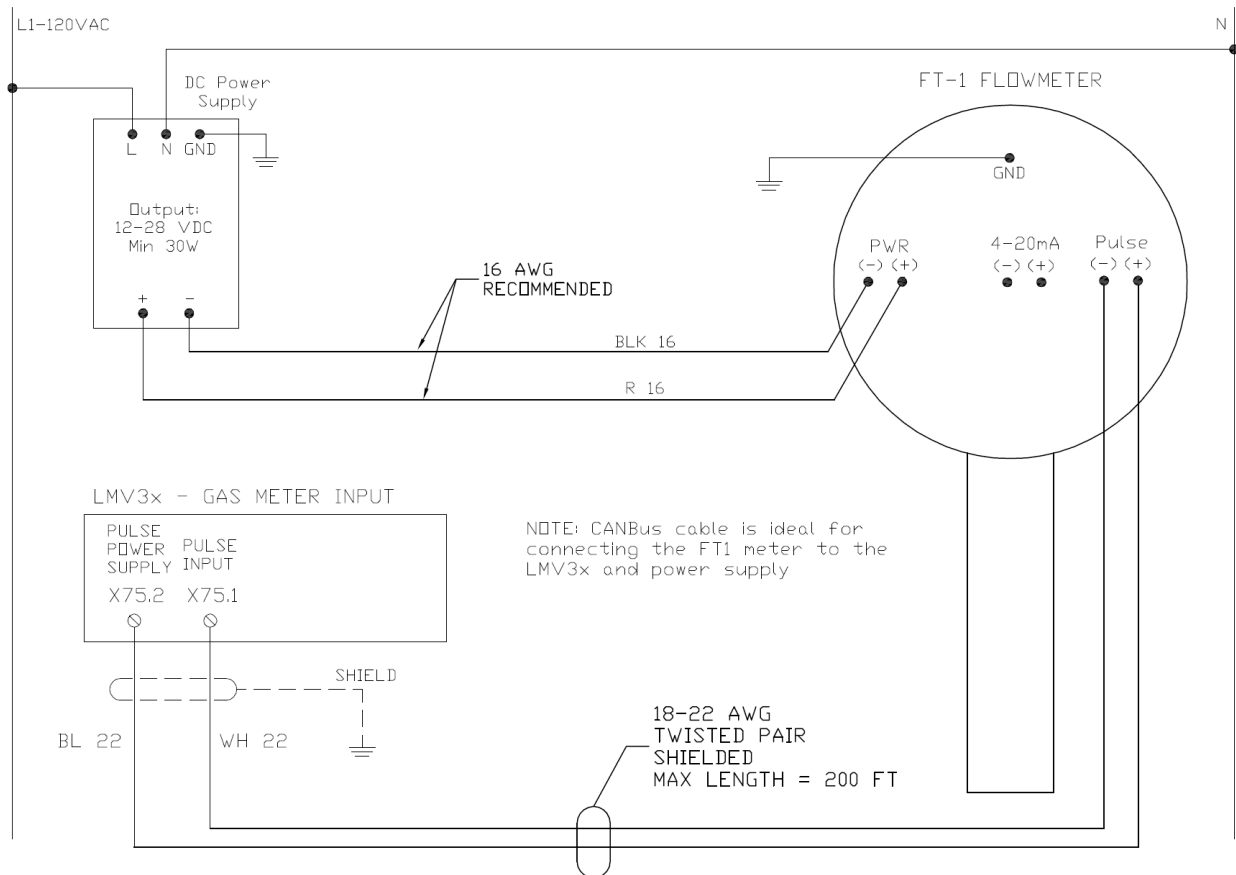

Figure 10: Electrical Connections between an FMP... Flow Meter and an LMV3x Burner Control
- LMV3x using the pulse output – Figure 10